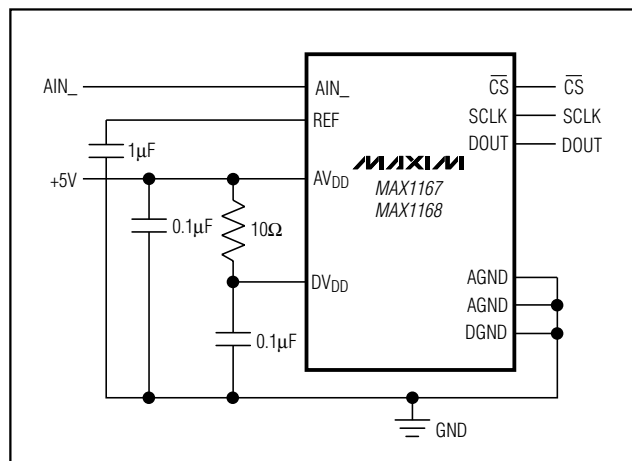

Figure 25. Powering AVDD and DVDD from a Single Supply
Use printed circuit (PC) boards with separate analog and digital ground planes. Do not use wire-wrap boards. Connect the two ground planes together at the MAX1167/MAX1168 AGND terminal. Isolate the digital supply from the analog with a low-value resistor ( $10\Omega$ ) or ferrite bead when the analog and digital supplies come from the same source (Figure 25).